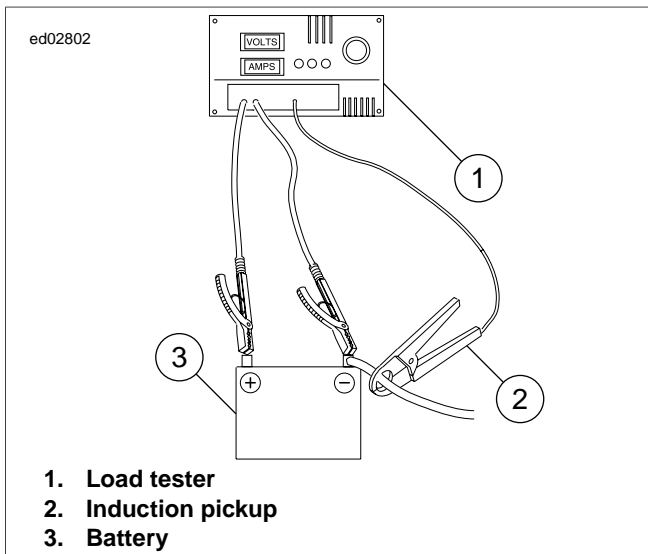

Figure 1-15. Check Current Draw (Ignition Switch On)
1. See Figure 1-15. To check for this condition, place load tester induction pickup or current probe pickup over battery negative cable.